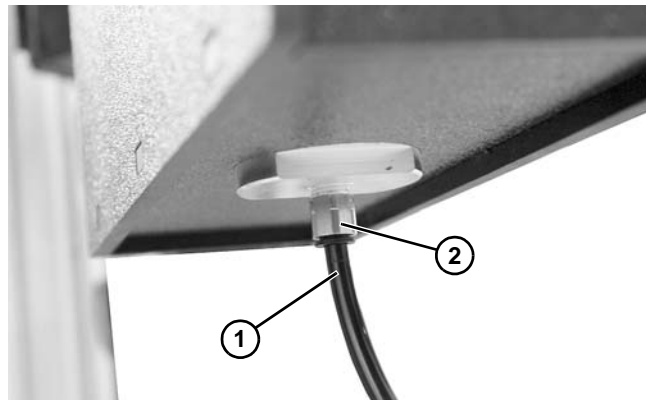

Figure 101
1. Remove tubing (Figure 101, item 1) from the lower port (Figure 101, item 2) on the lift cylinder.